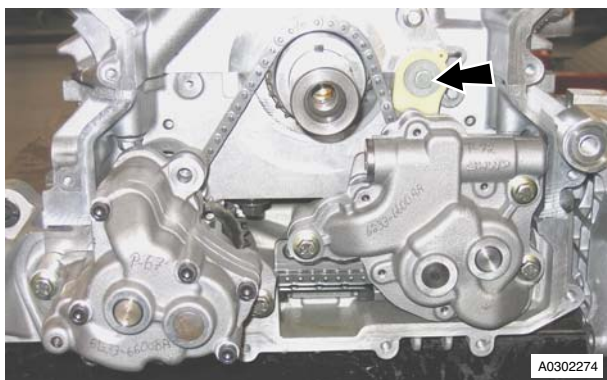

Figure 1
4. Remove bolt securing oil pressure pump chain tensioner assembly to engine bedplate (see Figure 1).